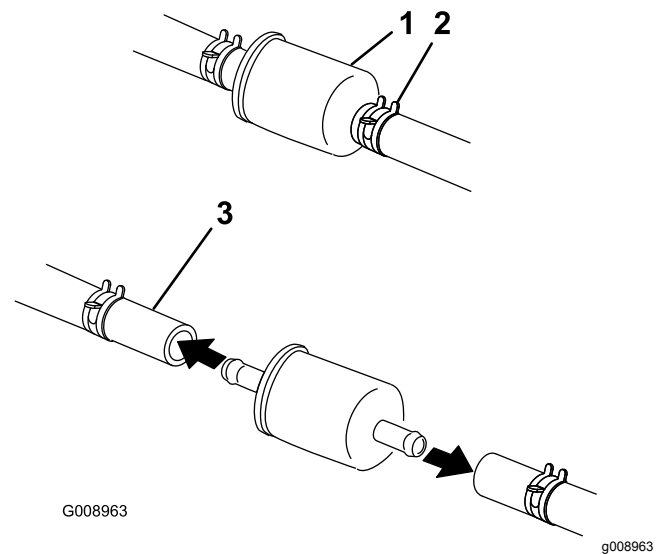

Figure 56
4. Close the fuel-shutoff valve under the seat (Figure 56).
5. Squeeze the ends of the hose clamps together and slide them away from the filter (Figure 56).
7. Install a new filter and move the hose clamps close to the filter (Figure 56).